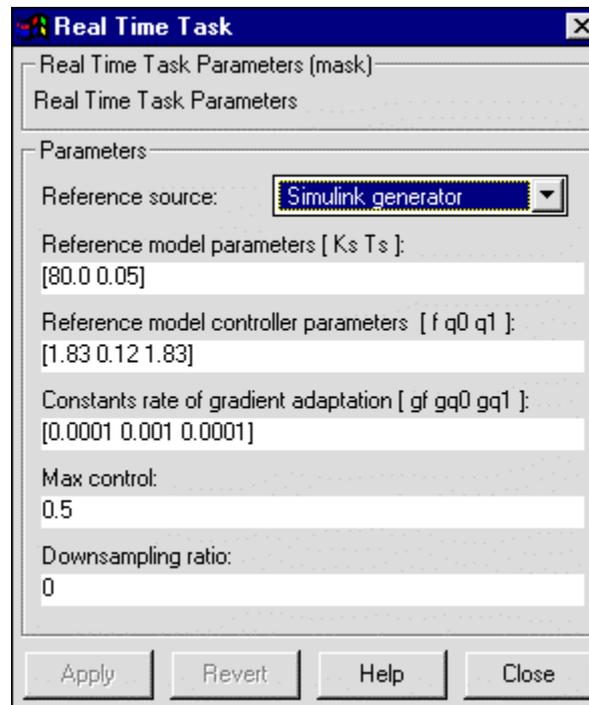

Figure 8-4: Parameters of the *Real-Time Task* block.
- ◇ *Simulink generator* - this option causes the Simulink signal generator *Desired Position* to be the source of the reference angle (see Figure 8-4),